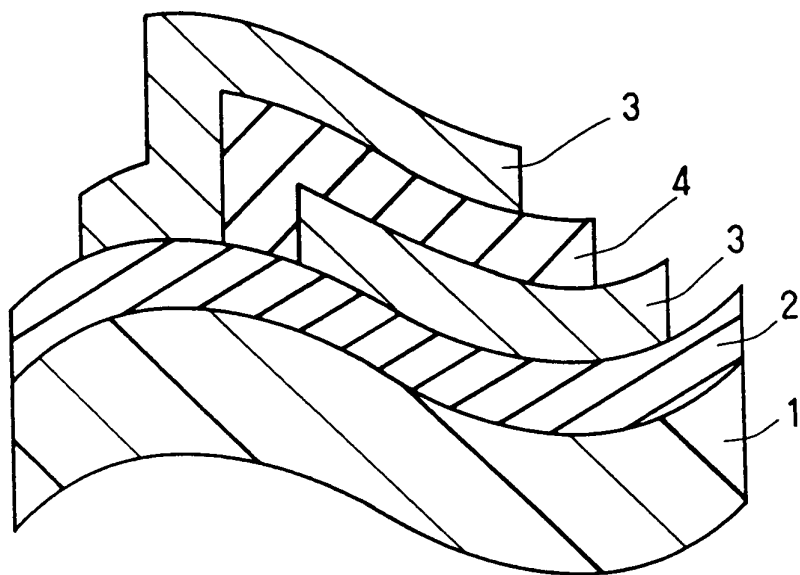

FIG. 1
Figure 1 is a perspective view of a multi-layered, wavy structure. The structure consists of several layers, with the top layer labeled 12. The layers are separated by gaps, and the overall shape is wavy. Other labels include 3, 4, 2, and 1, indicating different parts or layers of the structure.
Figure 1 is a graph showing the dependence of the deposition rate on the RF power. The x-axis represents RF Power (W) on a logarithmic scale, with major ticks at 100, 500, and 1,000. The y-axis represents the Deposition rate (nm/min) on a linear scale, with major ticks at 0, 10, 20, 30, 40, and 50. Six data points are plotted, showing a linear increase on the log-linear plot, fitted with a solid line. A dashed line extrapolates the fit to lower powers.